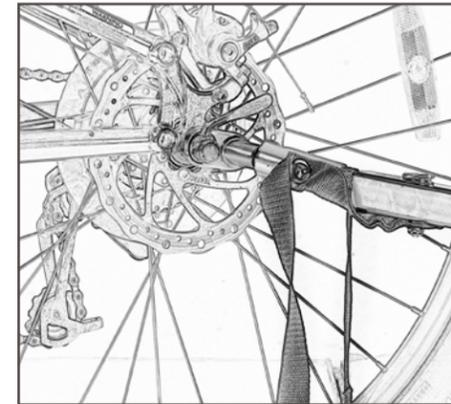

Figure 26
1. Position trailer tow arm to align with trailer hitch on bicycle frame. Slide the tow arm flex coupler onto the trailer hitch, aligning the holes in tow arm with the hole in the hitch (Fig. 26).